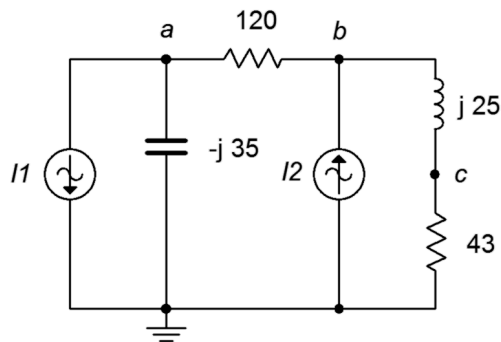

Figure 6.15
29. Given the circuit in Figure 6.15, use nodal analysis to determine v_c . $I_1 = 3\angle 0^\circ$, $I_2 = 900E-3\angle 0^\circ$
30. Use nodal analysis to find the current through the 120 Ω resistor in the circuit of Figure 6.15.